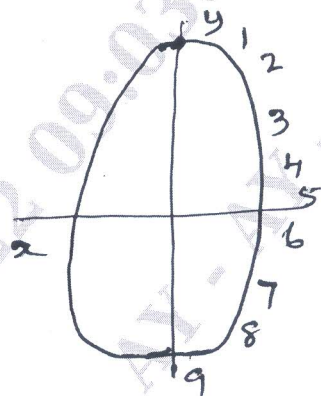

Fig.Q10
- 10 The fuselage of the section the bending moment due to self weight was 9.8kNm and due to symmetrical pull out tail load 45.1kNm down. The tail load may be assumed to be acting at 2m away from the section. If the stringers are 16 in number and placed as shown in Fig.Q10, with areas of stringers placed symmetrical about YY axes. Calculate the stress in stringers.